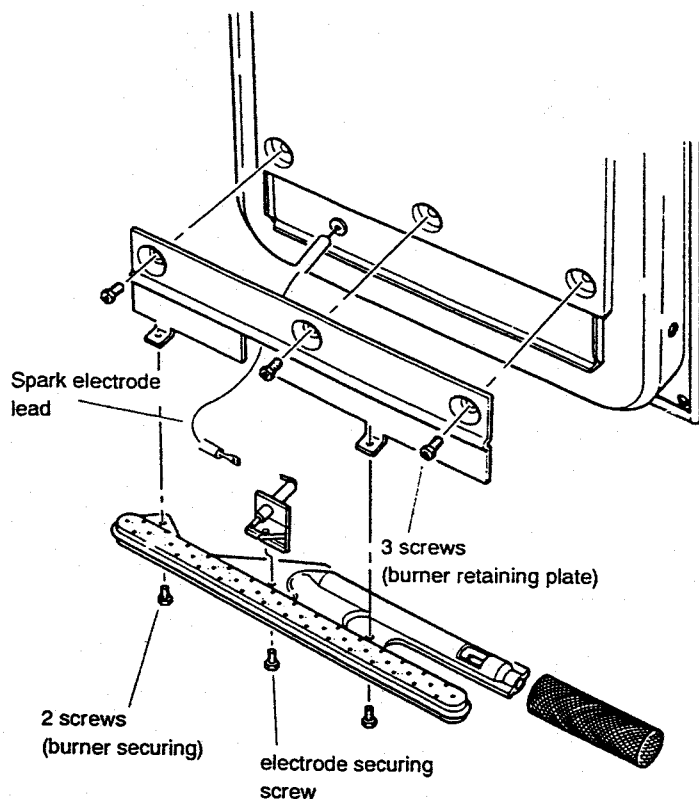

Fig.8. Spark-electrode lead and burner retaining-plate.
4. Remove the burner retaining plate and burner by removing the three screws and pulling off from its location on the injector sufficiently to give access to the spark electrode lead (Fig 8). Disconnect the spark electrode lead.
On re-assembly check that the burner is correctly positioned on the injector with the gauze covering the primary aeration hole and is horizontal. (Fig 8).